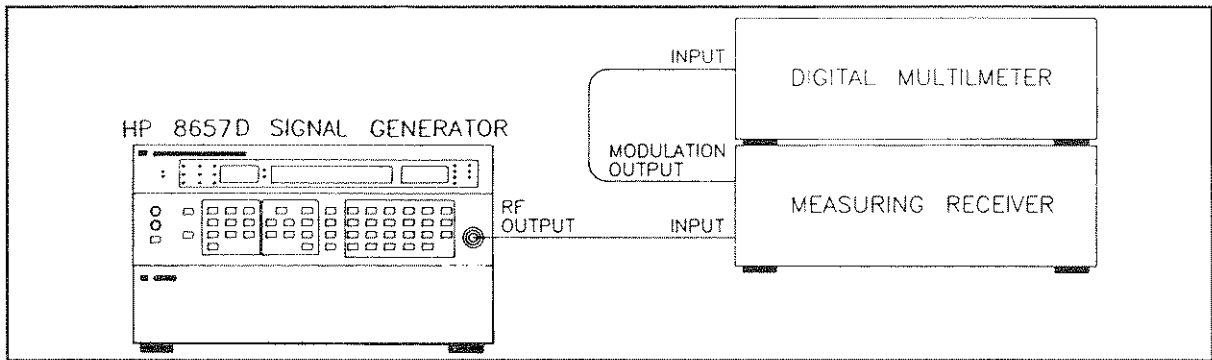

Figure 4-3. Residual AM Test Setup
8. Connect the RF OUTPUT of the HP 8657D to the input of the measuring receiver and the modulation output of the measuring receiver to the input of the digital multimeter as shown in Figure 4-3.